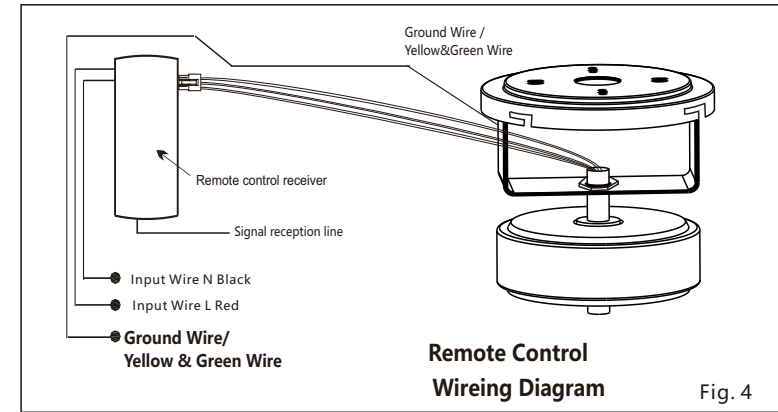

Fig. 4
3. Connect electrical wires accurately according to the diagram.(Fig. 4)